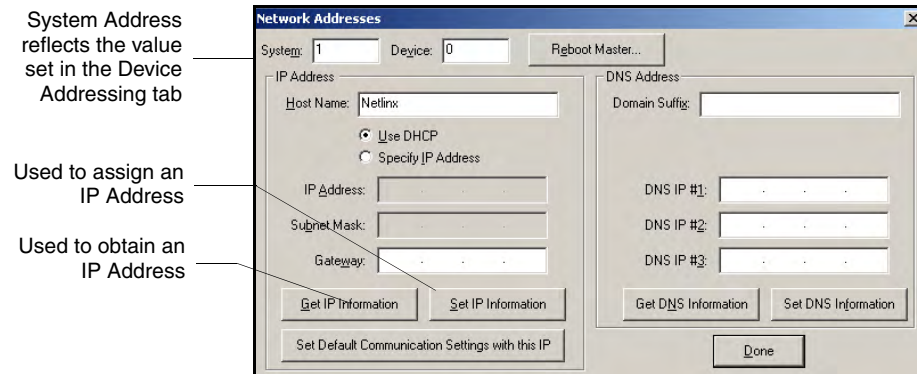

FIG. 26 Network Addresses dialog (showing Get IP)
4. Click the **Use DHCP** radio button from the IP Address section (FIG. 26).